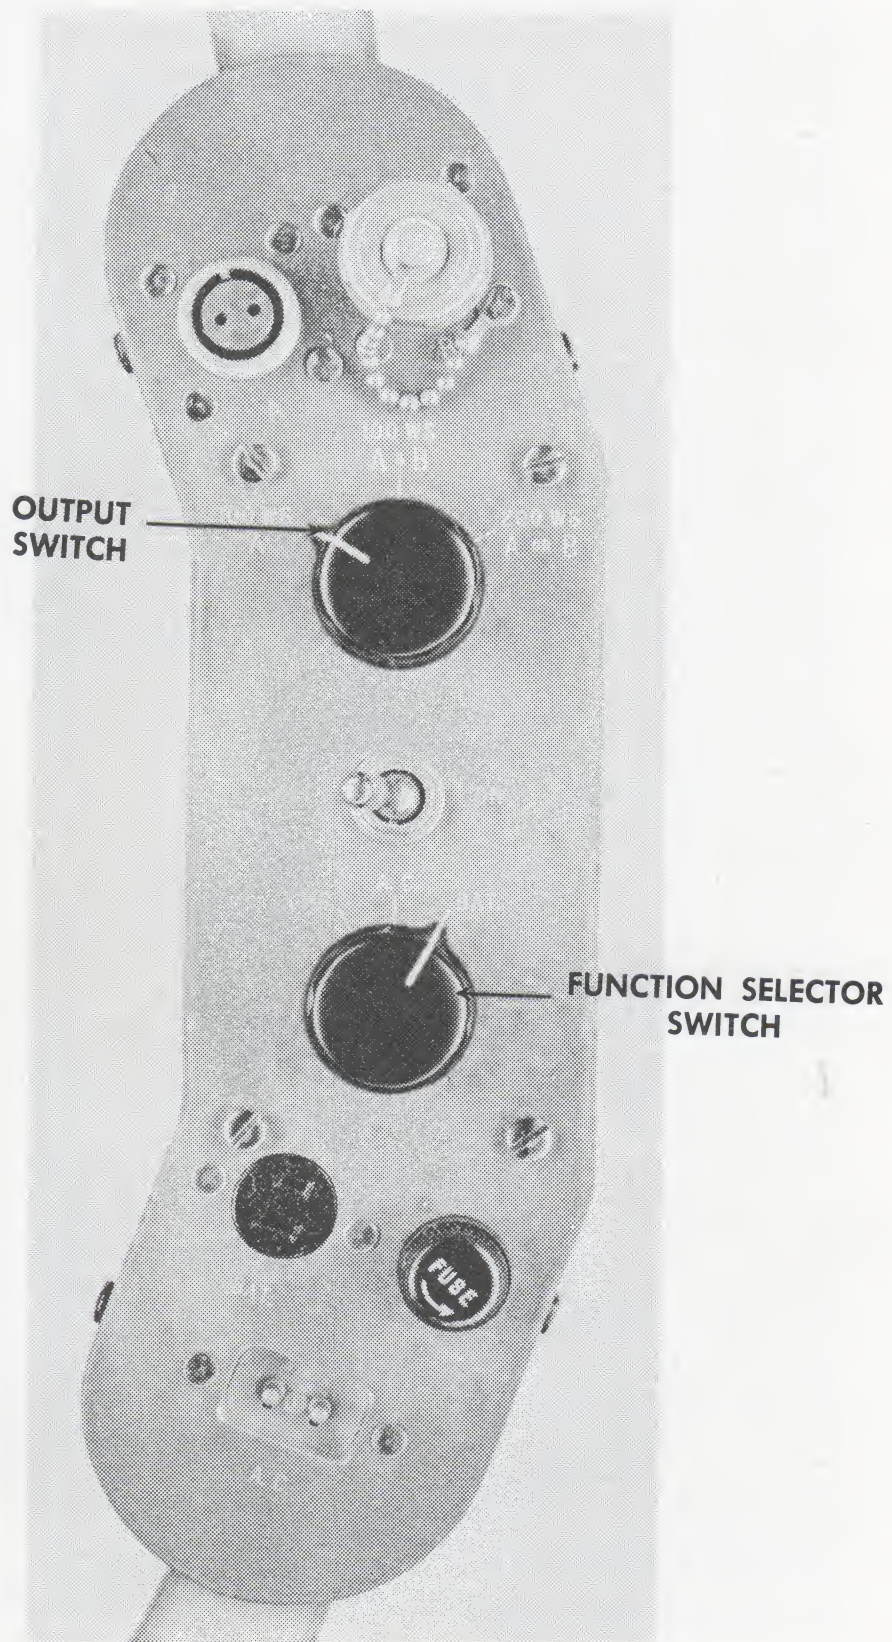

FIGURE 8
2. Set up the unit for a-c operation by connecting the a-c cord to the unit and to an a-c source. Turn function selector switch (*Fig. 8*) to "A.C."
3. Turn the output switch (*Fig. 8*) to the center (dual 100 W.S. output) position. Turn the off-on switch to "ON".
The markings around the function selector switch (*Fig. 8*) on top of the power supply are fully descriptive. On "CHG." the battery is being charged. It is, of course, necessary to have the a-c cord connected. On the position marked "A.C." the unit is ready to operate from a 110-120 volt a-c power supply when the a-c cord is connected. On "BAT" the MEGALUME operates from its own internal six-volt storage battery. The switch marked "ON-OFF" functions as marked for each of the three positions of the selector switch. For example, when charging the battery, the switch must be in the "ON" position. The switch should be in the "OFF" position whenever the unit is not being used. This is particularly important to conserve energy when battery operation is employed.